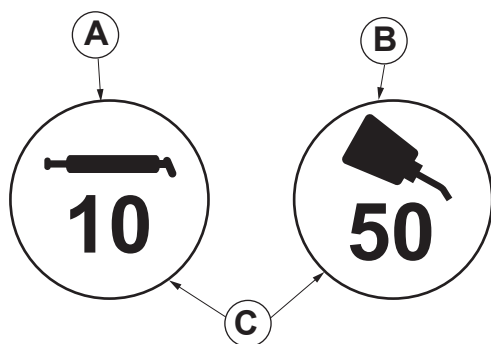

Figure 142. Lubricant Symbols
Follow hourly (C) intervals on lubrication symbols (A) and (B) (see Figure 142).